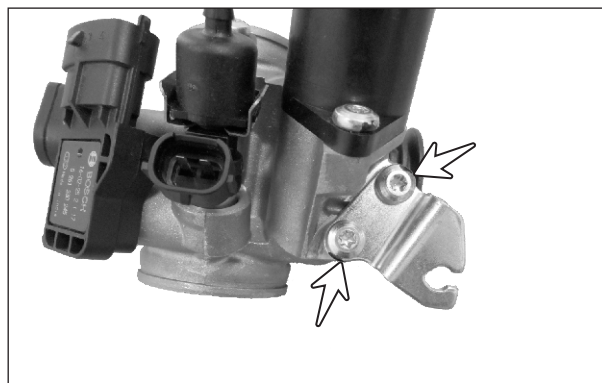

Fig. 4.15
- Remove the torsional screw (2nos.) from the bracket throttle holder and take out the bracket throttle holder. (Fig. 4.15)